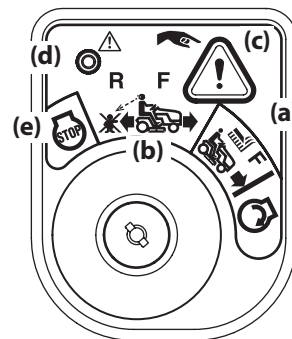

Figure 3-10
- Turn the key from the NORMAL MOWING (a) position to the REVERSE CAUTION MODE (b) position of the ignition module. See Figure 3-10.
- Press the REVERSE PUSH BUTTON (c) at the top, right corner of the ignition module. The red indicator light (d) at the top, left corner of the ignition module will be ON while activated. See Figure 3-10.